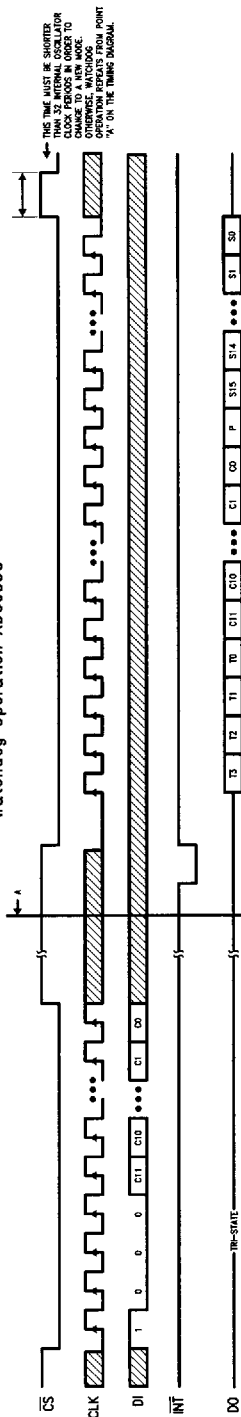

FIGURE 7. Timing Diagrams for Watchdog Operation
The timing diagrams for ADC0851 and ADC0858 watchdog operation are shown in Figure 7. After a  $\overline{CS}$  low is detected, the input word (DI) is clocked in starting at the first rising edge of the serial clock (CLK). Once the least significant bit of the channel address is loaded,  $\overline{CS}$  should go high. Taking  $\overline{CS}$  high after the proper input word is loaded initiates the operation of the device in the watchdog mode. To keep the device in continuous watchdog mode,  $\overline{CS}$  should remain high for eight or more OSC clock periods for the ADC0851 and thirty-three or more OSC clock periods for the ADC0858. If the input signals are within the boundary limits, the interrupt pin (INT) remains at logic "1" and the Data Output (DO) pin is in TRI-STATE. In addition, in the case of the ADC0851, the COMPL and COMPH pins remain at logic "1".
To output data after a limit crossing occurs (i.e., after  $\overline{INT}$  goes low),  $\overline{CS}$  should be brought low. Note that  $\overline{INT}$ ,  $\overline{COMPL}$  and  $\overline{COMPH}$  would remain low as long as  $\overline{CS}$  doesn't go low. After  $\overline{CS}$  goes low  $\overline{INT}$ ,  $\overline{COMPL}$  and  $\overline{COMPH}$  go high and one clock cycle later output data is transmitted starting at the first rising edge of  $CLK$ , however, the data is valid at the falling edge of  $CLK$  (Figure 7).